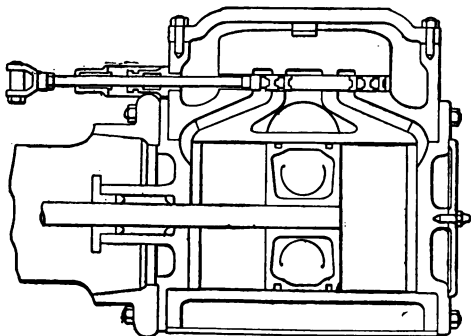

FIG. 151. PAYNE BALANCED VALVE.
A. Yes. It is a balanced, double ported slide valve as shown in Fig. 151. It is perfectly balanced and may be moved by hand under steam pressure. The valve is a flat ported plate with perfectly parallel faces. The balance cover is also ported to correspond with the cylinder ports and is supported just free from the valve by side bearings which are adjustable for valve wear. The cover is held in place by a spring on top which allows the valve to raise off its seat to allow entrained water to escape.